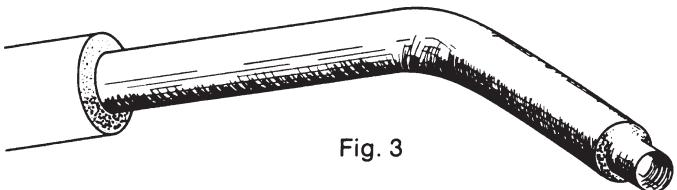

Fig. 3
**STEP FIVE:** Slide one end of the hose on to the port connection on the side of the canister. This will be a snug fit. Slide the metal nozzle into the other end of the hose with the crimped end OUT. See Fig. 3.
- The metal nozzle allows ash to be removed quickly while larger particles are left behind to be burned at a later date. (Fig. 3)